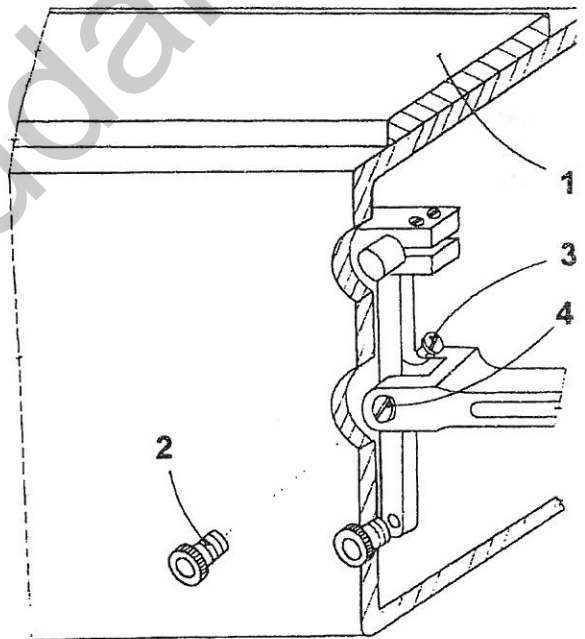

Fig. 10
**17. To adjust the needle punches transversely into the centre of the slot of the throat plate (Fig. 10)**